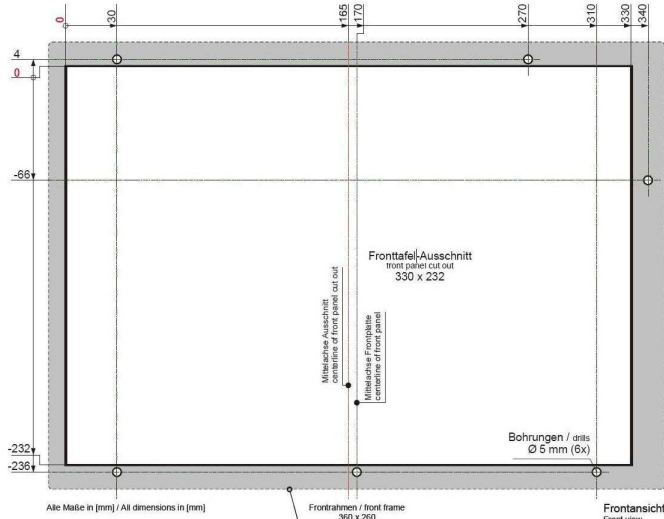

Fig. 12: Mounting cutout
- The device is fastened with six stud bolts (Fig. 12). Six bores with a diameter of 5 mm are provided for the stud bolts.